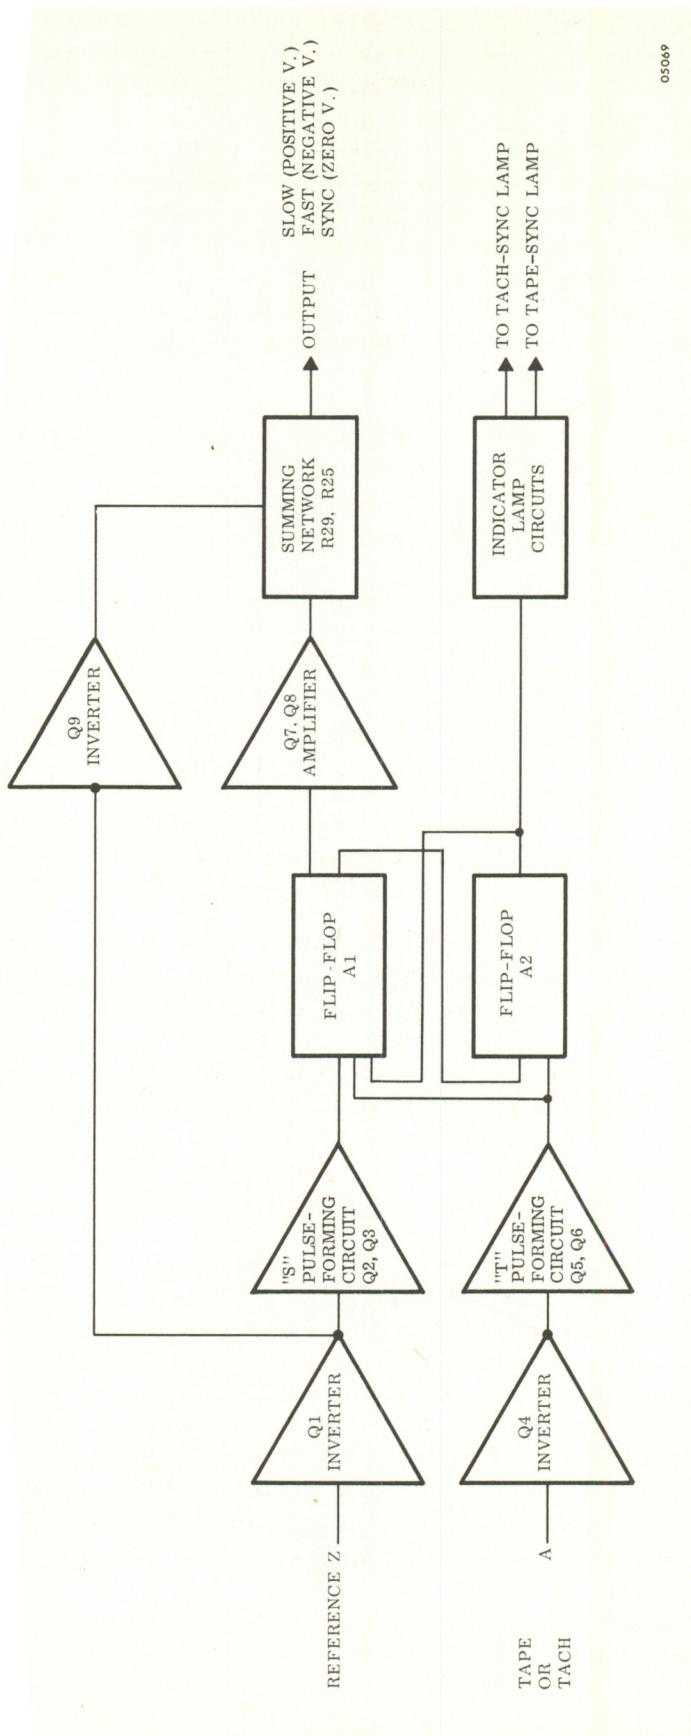

Figure 4.2-7. Phase Comparator, Block Diagram
4.2-28 PHASE COMPARATOR (Schematic Number 1212595). The phase comparator compares the frequency from either the tachometer or control track signal with the frequency of the reference signal and generates a correction signal of the proper magnitude and polarity to maintain the selected capstan speed. The TAPE SYNC-TACH SYNC indicator lamp circuits are also controlled through the phase comparator card. A block diagram of the phase comparator is shown in Figure 4.2-7.